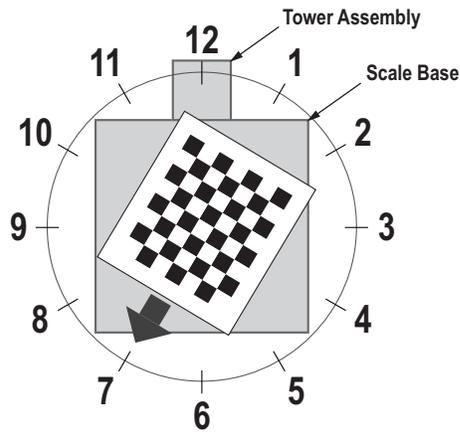

Figure 5-10. Rotate to 7 o'clock
- Align calibration object so the cross hairs are centered. Rotate the calibration object to 7 o'clock with the tower assembly being at 12 o'clock (Figure 5-10).